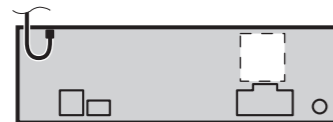

Fig. 4
- The cords must not cover up the area shown in the figure below. This is necessary to allow the amplifiers to radiate freely. (Fig. 4)